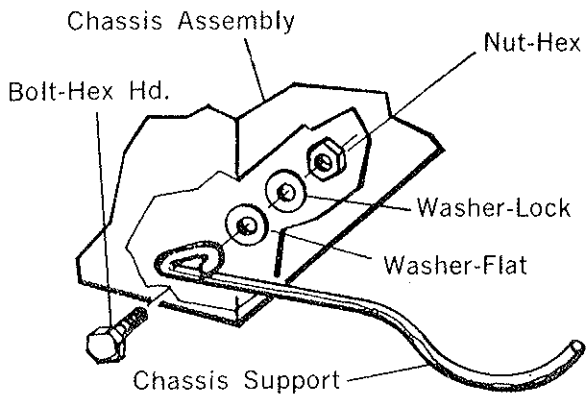

Figure 2
1. Ref. Fig. 2 - To assemble your Sweeper, turn the Unit upside down and install (2) Chassis Supports, using (2) 1/4-20 x 3/4 Hex Bolts, (2) Flat Washers, (2) Spring Lock Washers and (2) Hex Nuts. Tighten the Nuts securely.